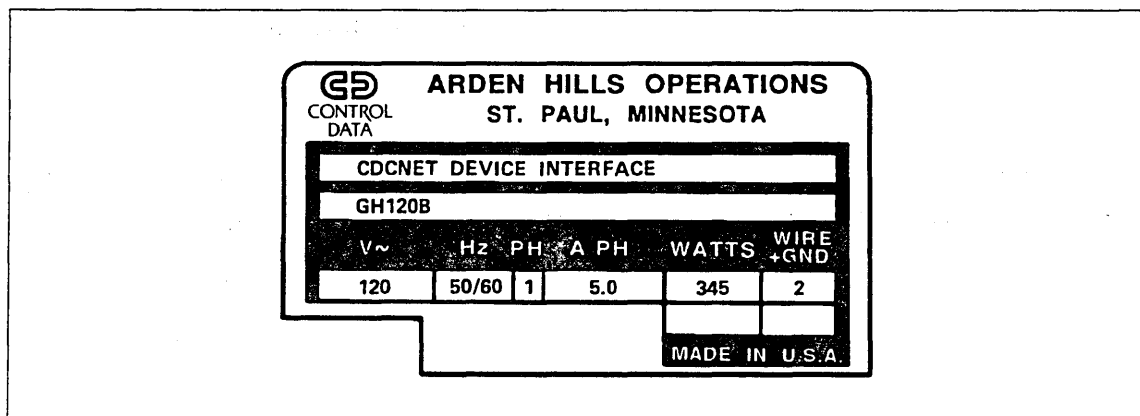

Figure 1-3. DI Equipment Label
1. Verify that the DI equipment label (figure 1-3) on the back of the DI cabinet specifies the correct input power for your site: either 120 V ac or 240 V ac.